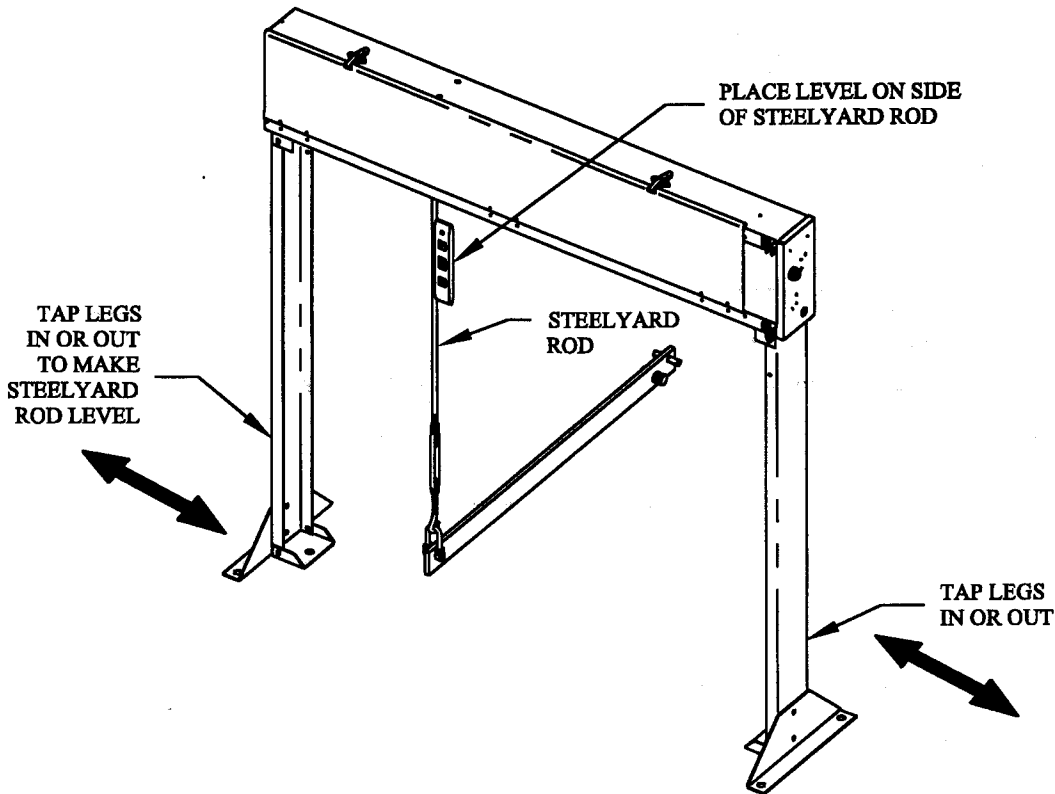

FIG. 13
STEP 13. Place a level on the side of the steelyard rod. If it is not level, tap the legs in or out until the steelyard rod is level. See Fig. 13.